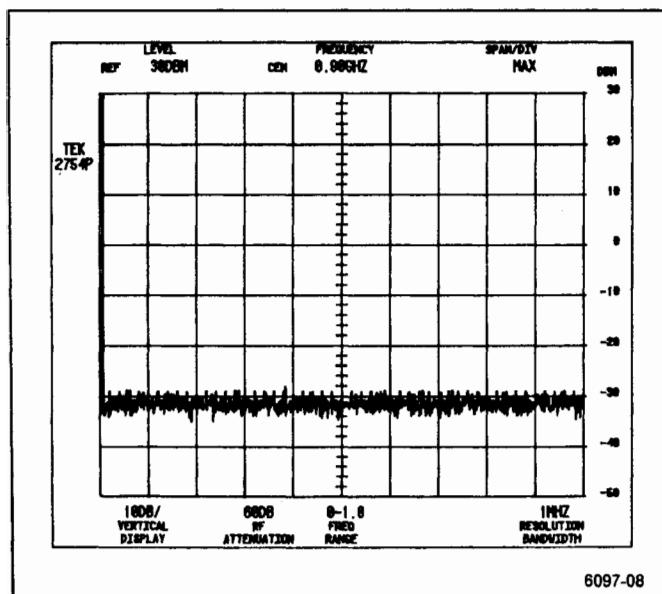

Figure 4-1. Crt display at initial power-up.
b. When POWER is switched on (power up), the microprocessor runs a memory and I/O test. If no processor system problems are found, the power-up program will complete in approximately 10 seconds, and the instrument will be ready to operate. After the power-up routine, the crt will initialize as shown in Figure 4-1.